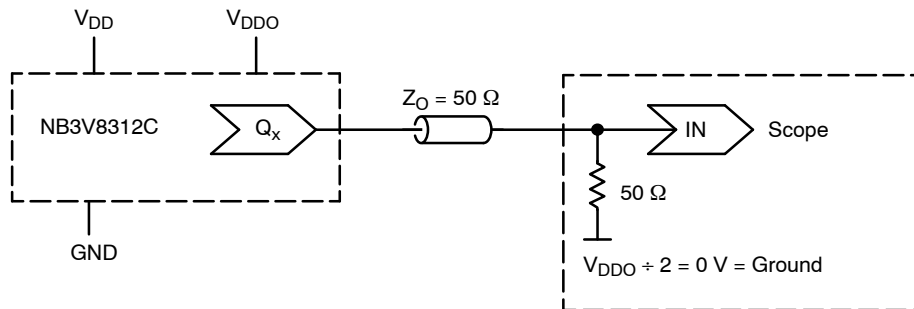

Figure 7. Typical Device Evaluation and Termination Setup – See Table 8
6. Outputs terminated $50\text{ }\Omega$ to $V_{DDO}/2$ unless otherwise specified. See Figure 7.
7. Outputs loaded with 50 Ω to $V_{DDO}/2$; see Figure 7. CLOCK input with 50% duty cycle; minimum input amplitude = 1.2 V at $V_{DD} = 3.3\text{ V}$, 1.0 V at $V_{DD} = 2.5\text{ V}$, $V_{DD}/2$ at $V_{DD} = 1.8\text{ V}$.
7. Outputs loaded with $50\ \Omega$ to $V_{DDO}/2$; see Figure 7. CLOCK input with 50% duty cycle; minimum input amplitude = 1.2 V at $V_{DD} = 3.3$ V, 1.0 V at $V_{DD} = 2.5$ V, $V_{DD}/2$ at $V_{DD} = 1.8$ V.